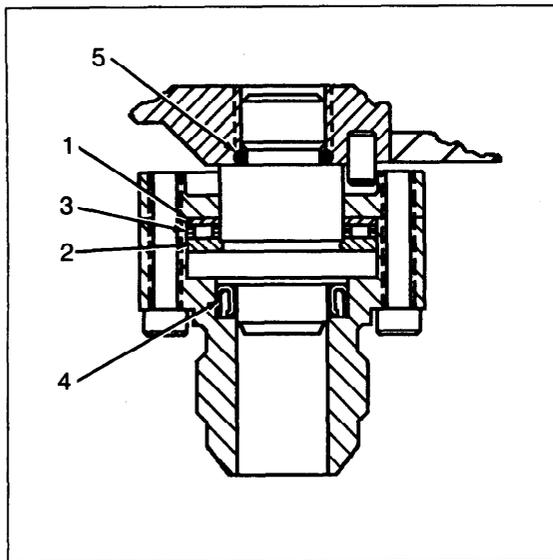

Figure 5-2 — Swivel Cutaway
6. Inspect the swivel connector shaft seal (4) and O-ring (5) for evidence of hardening, cracking or other damage. Replace these components if damage is found.
7. Apply Parker O-Lube, or equivalent lubricant, to the O-ring, and PTFE grease to the shaft seal. If the seal was removed, re-install it with the open side of the seal pointed away from the thrust bearing, as shown in Figure 5-2.